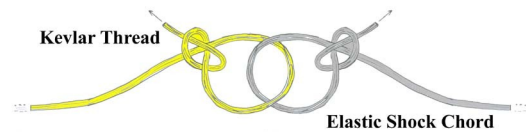

Figure 8
- **Step 16** Push the Kevlar thread back through the engine mount and out the top end of the body tube. As shown in Figure 8, tie a slip knot loop in the free end of the thread. Insert one end of the elastic chord through this loop and tie a slip knot loop in it. Pull these loop knots tightly together and secure the knot with a layer of thinned glue. Allow to dry. Tie the free end of the elastic chord to the barrel end of the remaining snap link and secure this knot with a layer of thinned glue. Let dry.